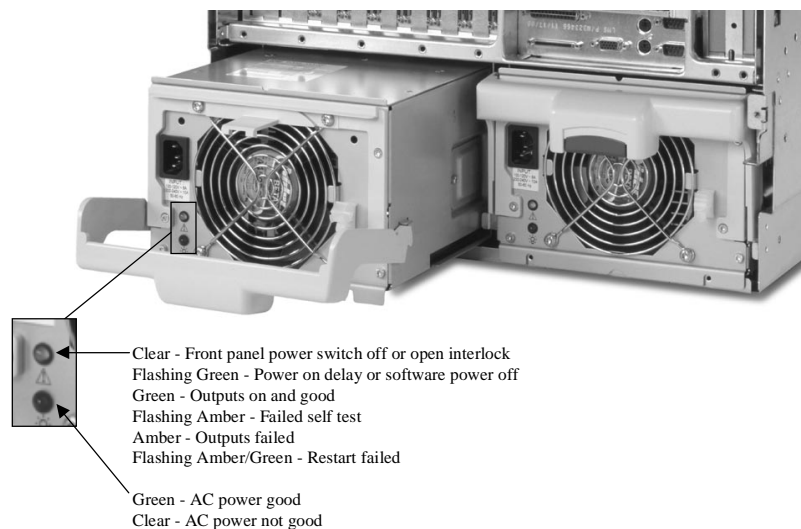

Figure 9: Power supply LED status indicators.
- **LED Standby Controls.** The microcontroller also drives two status light-emitting diodes (LEDs) on the back of the power supply that indicate power status, as shown in Figure 9. This gives the user vital status information at a glance.